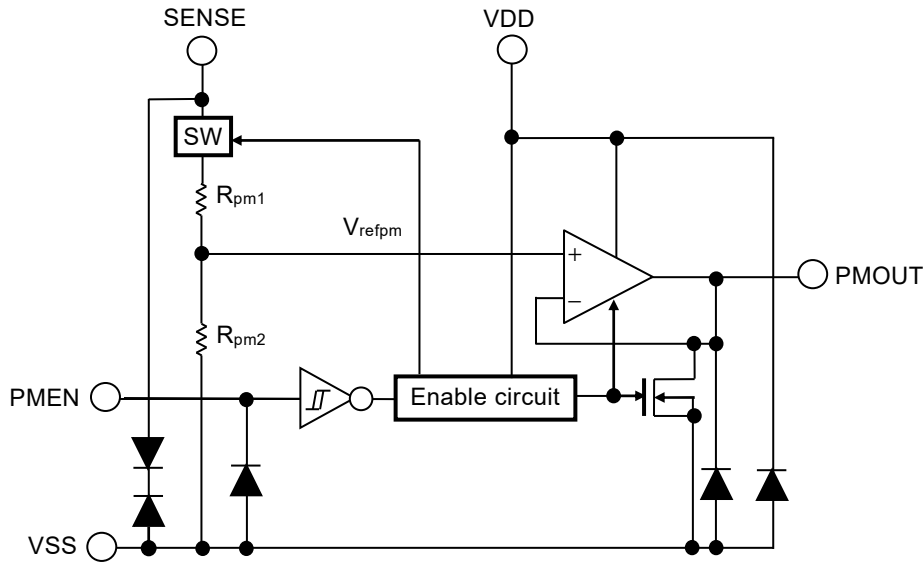

Figure 24
**Figure 24** shows the block diagram of the supply voltage divider block to describe basic operation. Reference voltage ( $V_{refpm}$ ) is generated by dividing the SENSE pin voltage ( $V_{SENSE}$ ) using the dividing resistance ( $R_{pm1}$  and  $R_{pm2}$ ). Since the buffer amplifier constitutes a voltage follower, it can perform the feedback control so that the output voltage of supply voltage divider block ( $V_{PMOUT}$ ) and  $V_{refpm}$  are the same. Low output impedance is realized by the buffer amplifier, while outputting  $V_{PMOUT}$  according to  $V_{SENSE}$ . When "L" is input to the PMEN pin, the current which flows to  $R_{pm1}$  and  $R_{pm2}$  and the current which flows to the buffer amplifier can be stopped. The buffer amplifier output is pulled down to  $V_{SS}$  by the built-in N-channel transistor, and  $V_{PMOUT}$  is set to the  $V_{SS}$  level.